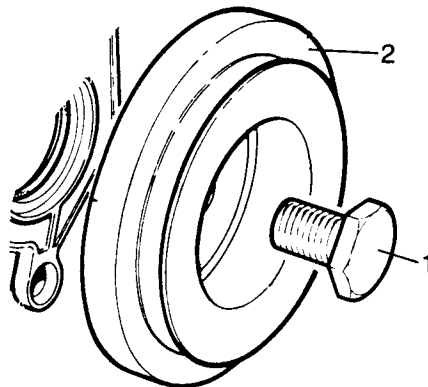

Fig B4.107
(7) Refer to Fig B4.107. Remove the harmonic balancer bolt (1) and pull the crankshaft pulley (2) away.
(8) Remove the camshaft cover (see Sub-section B4, Chapter 11).